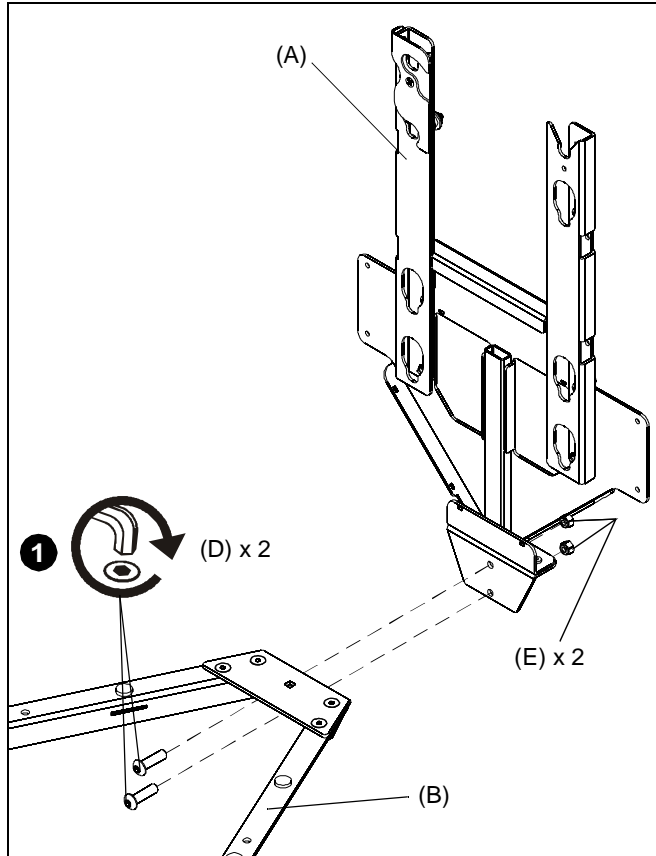

Figure 1
1. Attach shelf bracket (B) to MSP-WES1 (A) using two 1/4-20 x 7/8" button head cap screws (D) and two 1/4-20 Nylock lock nuts (E). (See Figure 1)